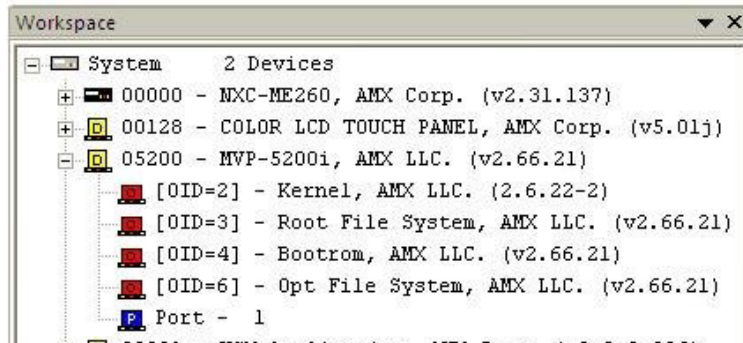

FIG. 1 NetLinX Studio - Online Tree tab of the Workspace Bar
1. In NetLinX Studio, open the **Online Tree** tab of the Workspace Bar (FIG. 1).